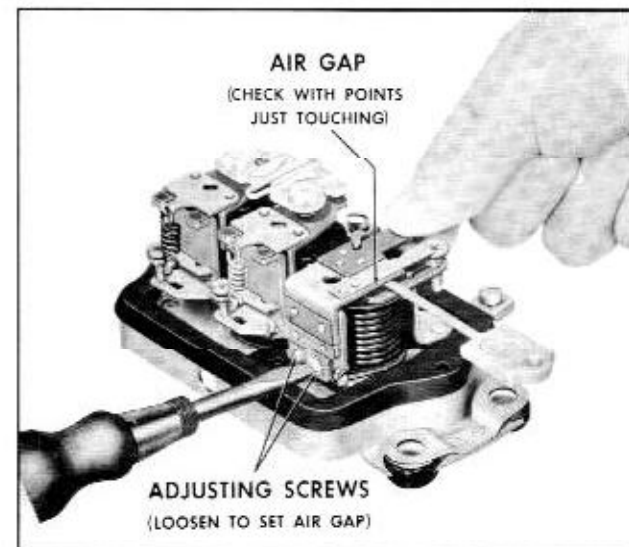

Fig. 13-37 Adjusting Cutout Relay Air Gap
- Place fingers on armature directly above core and move armature down until points just close. Measure air gap between armature and center of core (.020"). Check to see that points close simultaneously. To adjust air gap, loosen two screws at back of relay and raise or lower armature as required. (Fig. 13-37)